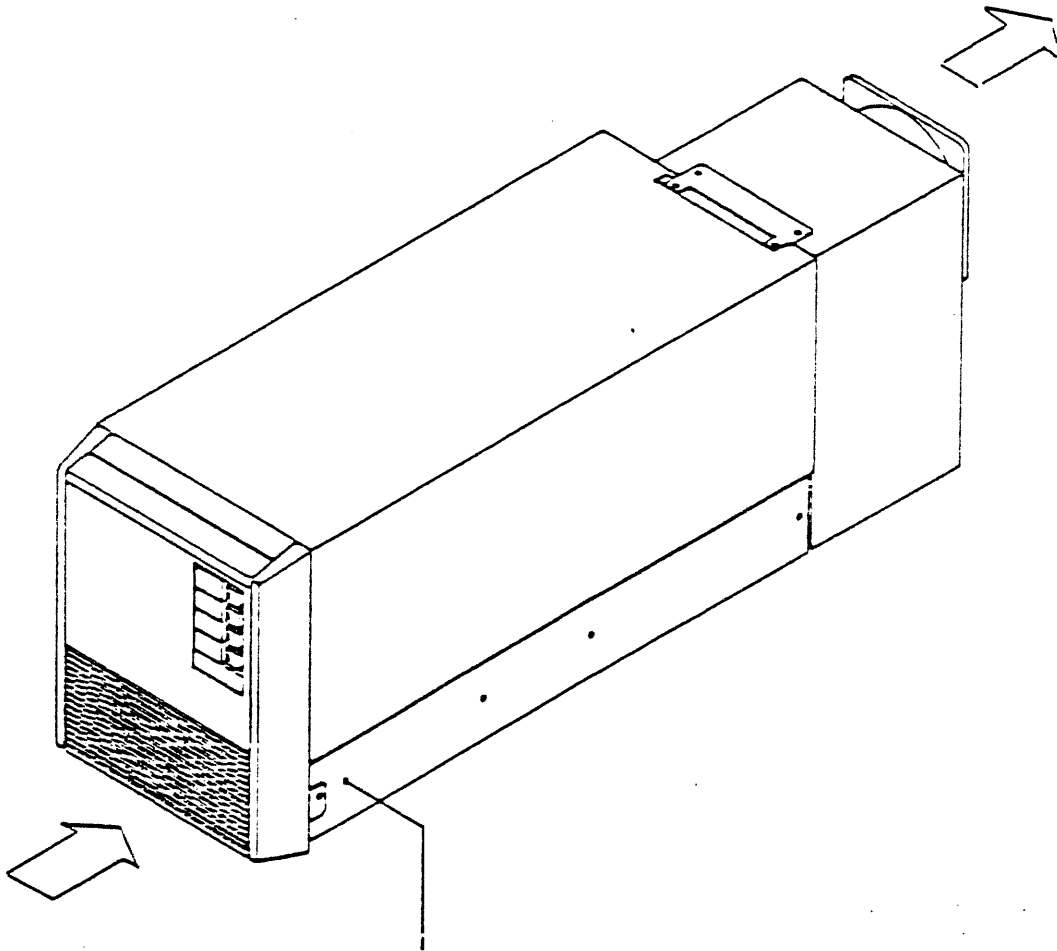

Figure 4-1 Air Flow
An air flow rate of more than 1.5 cubic meter per minute shall be maintained through the air flow path illustrated in Figure 4-1.
- (1) The drive shall be installed to meet the environmental and power conditions shown in Table 2-1.
- (2) The drive shall be installed horizontally to the rack or cabinet.
- (3) The air flow is illustrated in Figure 4-1 to assure the flow rate of more than $1.5 \text{ m}^3/\text{min}$.